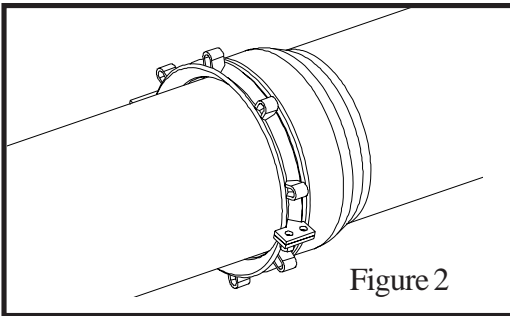

Figure 2
- Assemble two flange halves on each side of the bell with the beveled gasket-sealing surfaces facing the bell. Connect flange halves by installing cap screws in the side flanges. Tighten screws. (See Figures 2&3)